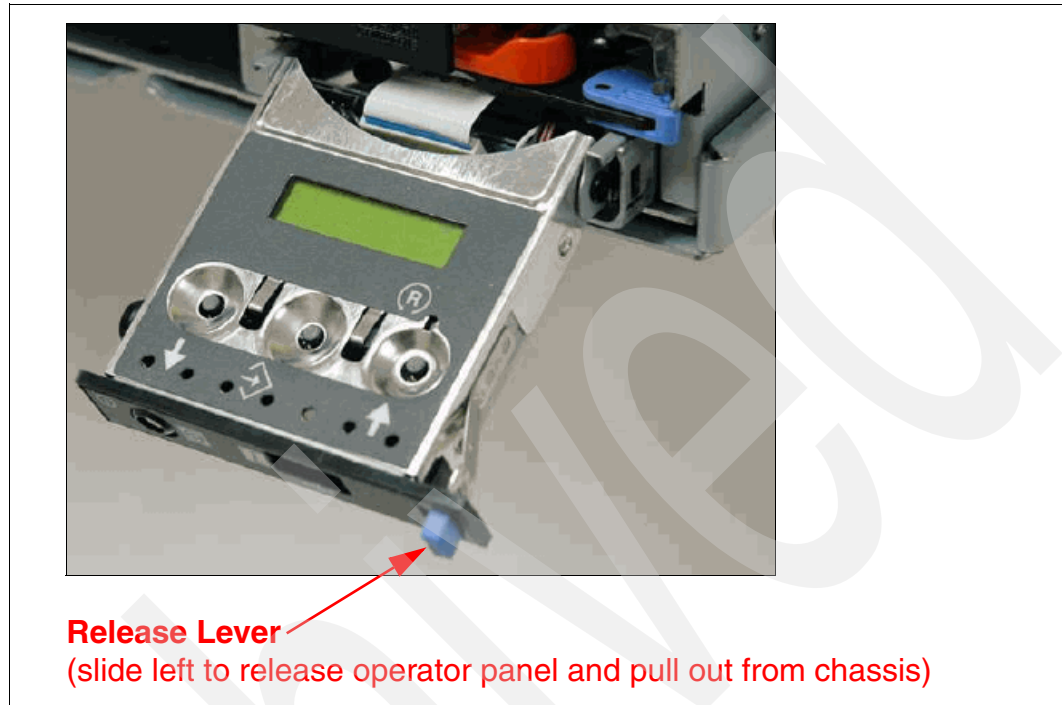

Figure 4-10 Operator panel is pulled out from the chassis
- ▶ By pulling it out to access the switches and viewing the LCD display. Figure 4-10 shows that the operator panel on a Power 770 and Power 780 is pulled out.